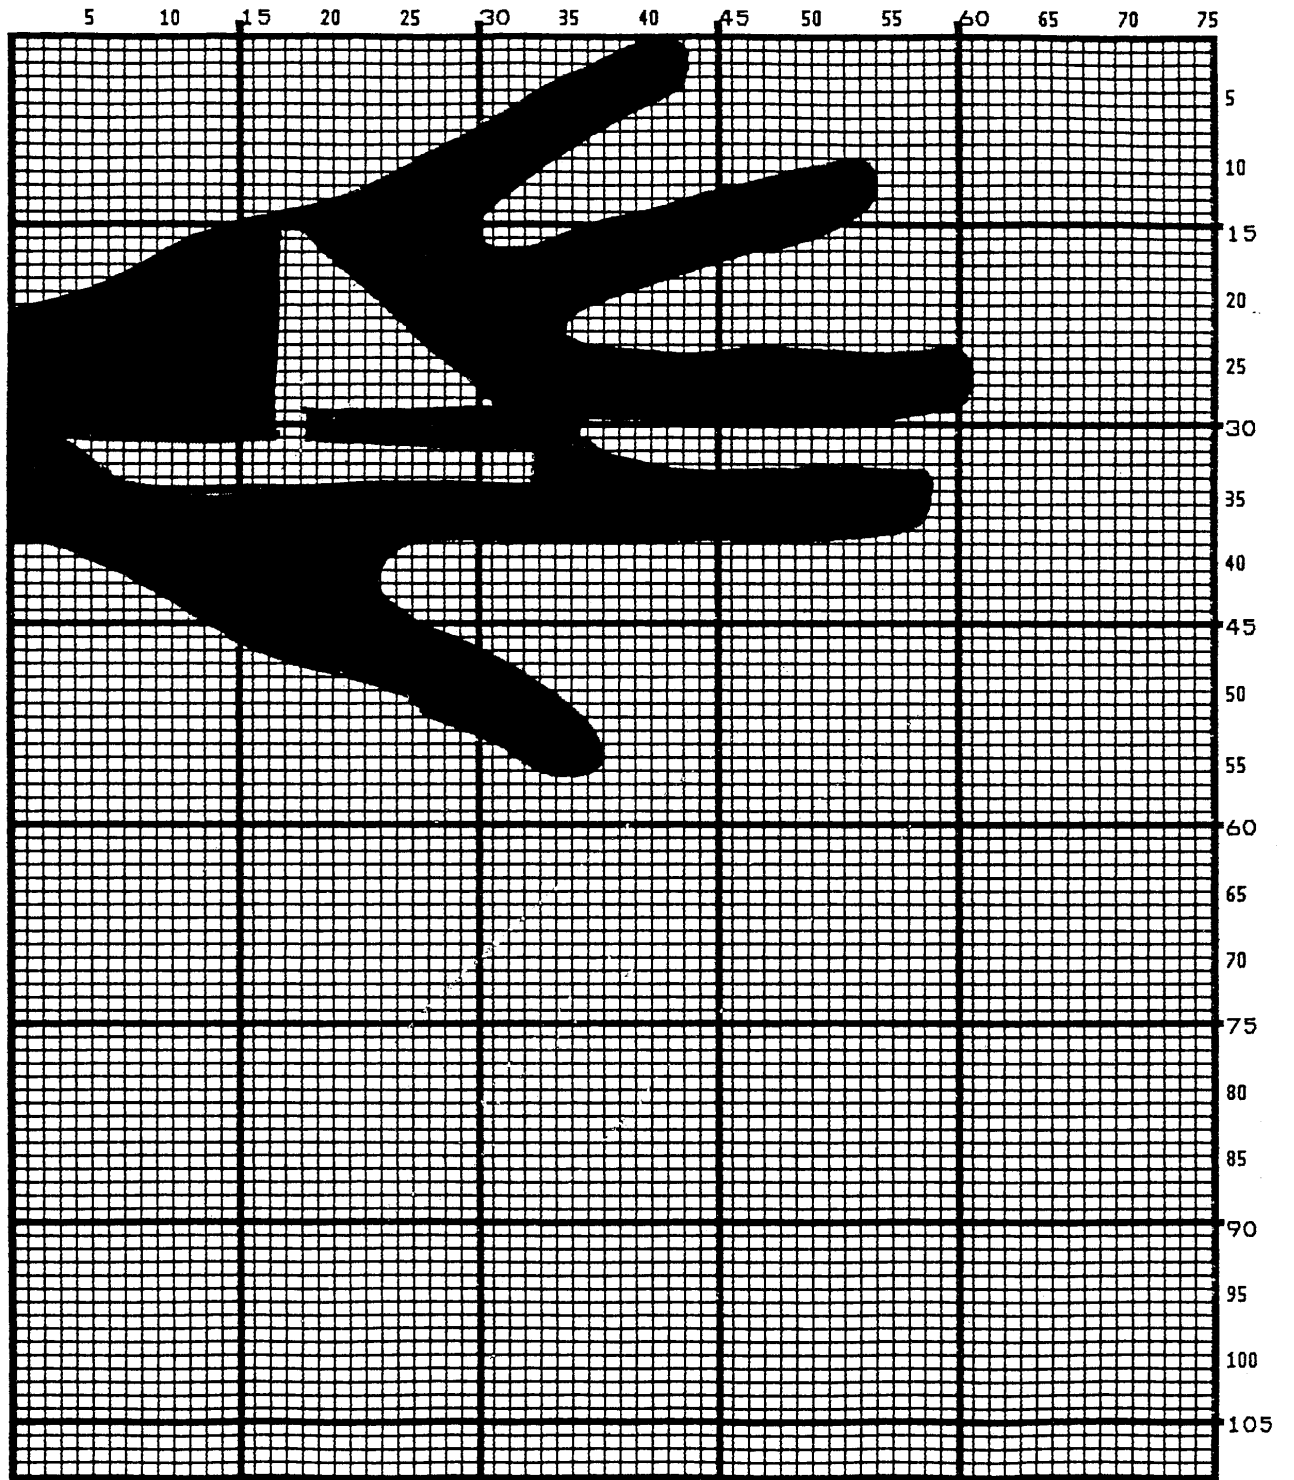

Figure 72. Logo Design
2. Define the logo and then return to the form to add all the form components. Modify the hand logo already on file as the HandCraft logo. Use the Logo Grid in Appendix B, and refer to Figure 72, which shows the dot positions of the hand logo with a boat added to the hand. When dot positions (or a range of dot positions) are not specified, the boat image in the hand emerges.
3. Open a file named HNDCT.FOM to contain all the form information. As shown in the following example, use the Create Logo mode command, name the logo HANDCRFT, specify the logo height (VL) and width (HL), enter the dot positions used, and end the Logo command.